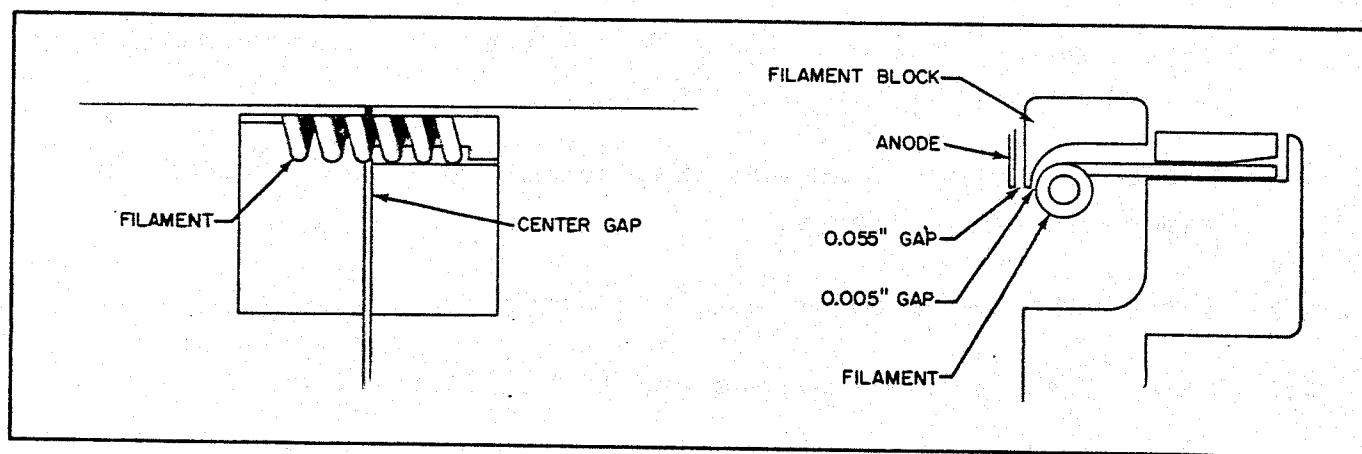

Figure 5-3. Cutaway Views Showing Properly Installed Filament.
The filament must be properly aligned as shown in Figure 5-3. If necessary, bend the legs slightly with pliers to achieve correct alignment.
- (10) From the front of the anode-cathode assembly, verify that the filament is centered in the cavity. Move it slightly from side to side to make sure the legs are centered in the V-groove in the clamp blocks. See Figure 5-3.
- (16) Tighten the filament screws to clamp the filament in position, making sure that there is a minimum of 0.005" clearance between the filament turns and the inner edge of the filament block directly in front of the filament. When properly located, the gap between the two middle turns of the filament should be immediately below the gap between the filament blocks. See Figure 5-3.
- (17) Install the anode on the anode base. Be sure to push it snugly against the shoulder of the recess in the base before tightening the anode screws. This will ensure the proper clearance of 0.055" \pm 0.005" between the anode and the filament blocks.
- (18) Install the anode-cathode assembly on the gun and tighten screws #33.
- (19) Replace the high-voltage leads and tighten the screws firmly.
- (20) Replace the high-voltage shielding.